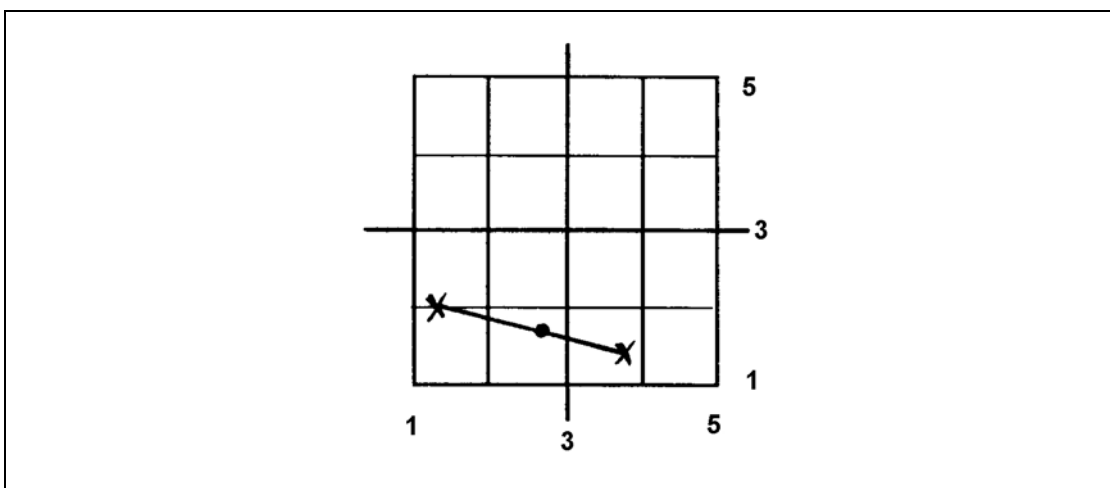

Figure B-22. Aiming point.
(11) Determine aiming point of gun.
- Mark the middle of the line. This is where the gun is aiming (Figure B-22).